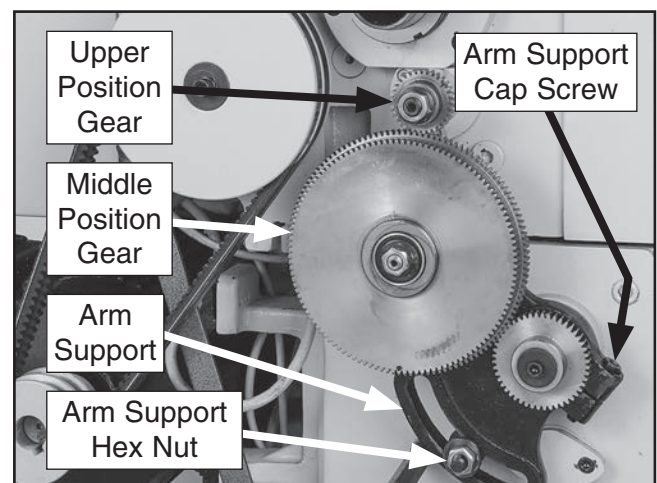

Figure 72. Arm support and end gears.
4. While holding middle position gears, loosen arm support hex nut and cap screw (see **Figure 72**) and slowly let gears pivot down and away from upper position gear.